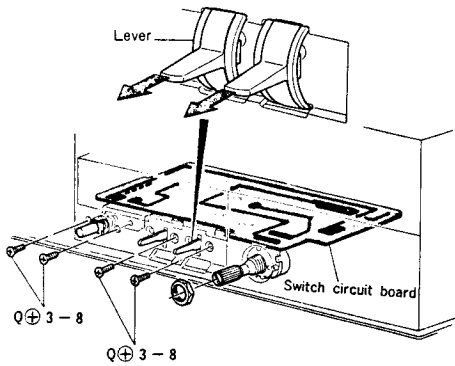

Fig. 7
- 3) Remove 4 screws and mounting nut. (Refer to Fig. 7)